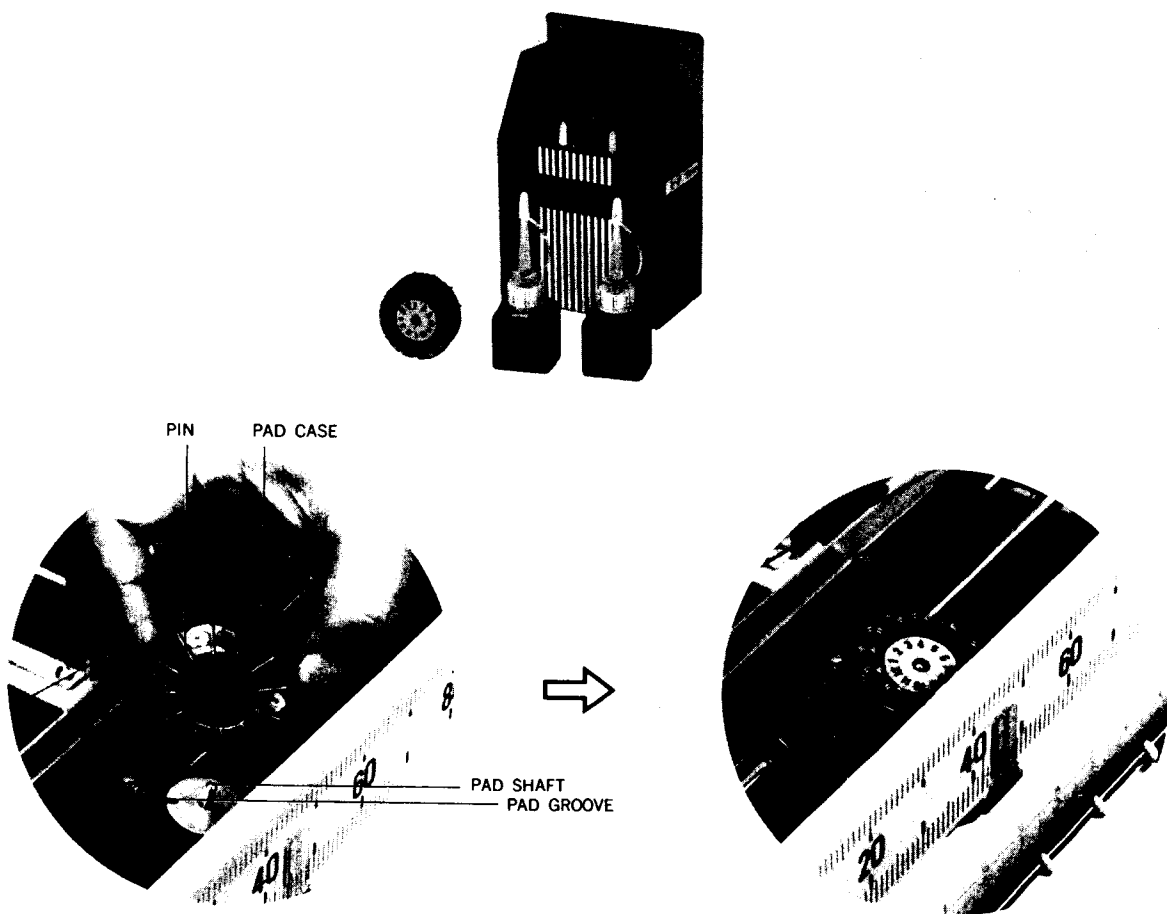

Figure 2-3. Installing Ink Pad Case Into RD250 6 and 12 Channel Multipoint Recorder
- 3a. (For 6 and 12 channel): Insert ink pad case onto the pad shaft of the dotting mechanism (see Figure 2-3), making sure that the pad case pin is fitted into the pad groove.